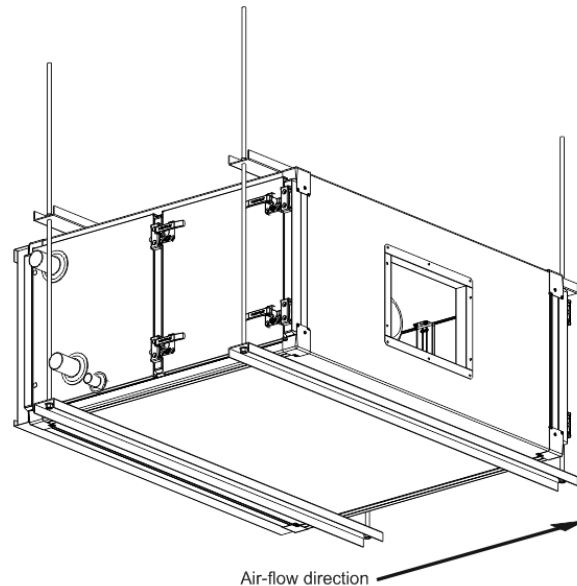

Fig. 2 Right-hand version of the VS 35-100 AHU
This type of suspended AHUs is available only in the right-hand (RH) configuration (fig.2).